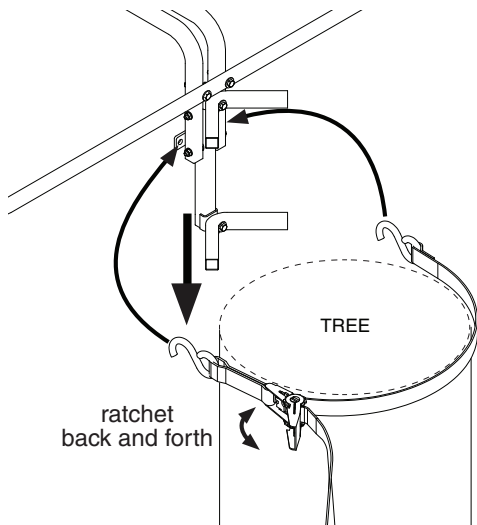

FIGURE 4
1. Standing on treestand with ratchet strap now in hand, hook "S" hook with long strap through hole provided on center roof brace bracket. Feed the long strap through the center (slot) of ratcheting mechanism and back around through tightening lever. **SEE FIGURES 4 & 5.**
Wrap entire ratchet assembly around tree and hook other "S" hook through opposite bracket hole. Pull tail of long strap until most of the slack is taken out. Be sure entire strap is even and at the same level all around tree. "Ratchet" tight to tree, this will securely attach ladder to tree and prevent movement. **SEE FIGURES 4 & 6.**